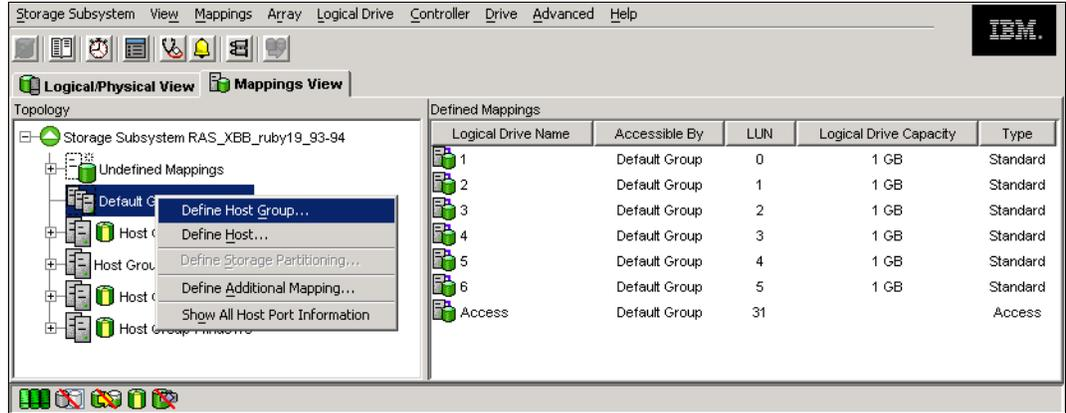

Figure 5-70 Define Host Group
1. Right-click **Default Group** and select **Define Host Group** (as shown in Figure 5-70 on page 269).